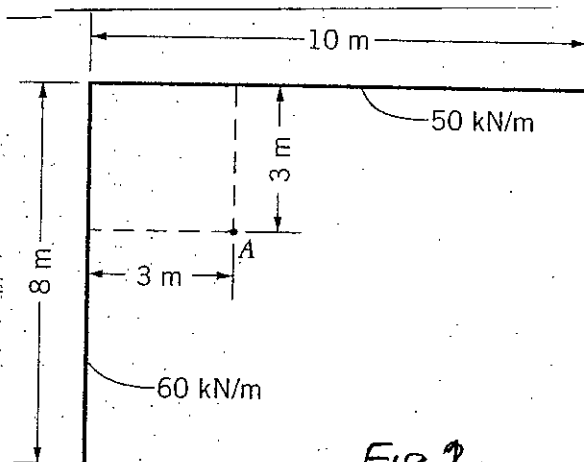

Fig. 2
6. (a) Determine the total stress (vertical) 8.0 m below the point "A" due to line loads shown in Fig. 2.